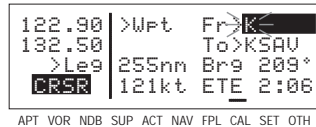

Figure 4-35
3. Rotate the right inner knob to select the first character of the waypoint identifier (figure 4-35).